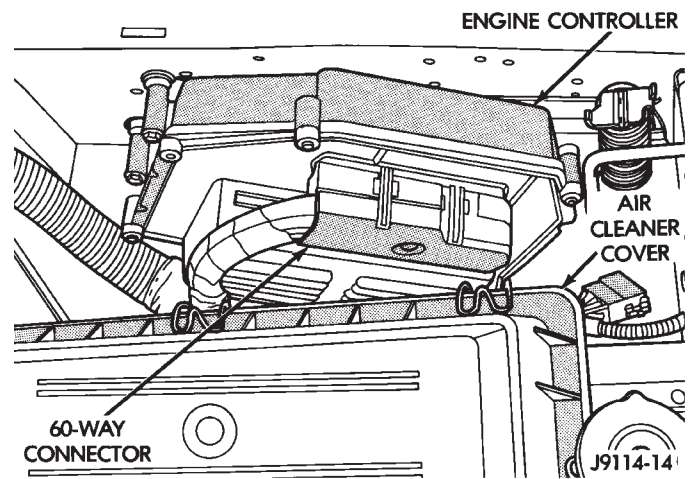
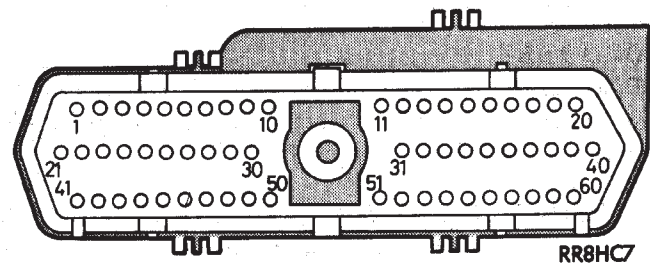

Fig. 4 Powertrain Control Module and Connector Location
Fig. 5 Powertrain Control Module 60-Way Connector Shown from Terminal End
(1) Unplug 60-way connector from Powertrain Control Module, located on drivers side fender (Fig. 4).
(2) Connect negative lead of voltmeter to a good body ground near module.
(3) For the following tests, ignition switch must be in ON position. Refer to Fig. 5 for controller terminal locations. Touch positive lead of voltmeter to terminal in cavity number 33. With speed control switch in OFF position, voltmeter should read 0 volts. With speed control switch in ON position, voltmeter should read battery voltage. If not, repair main harness as necessary.